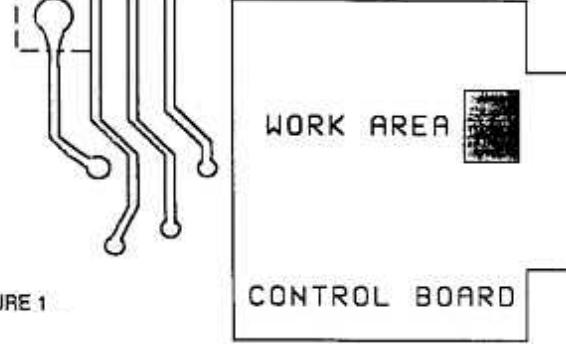

FIGURE 1
8. Install the circuit shown in figure 1 on the foil side of Control board A/3.